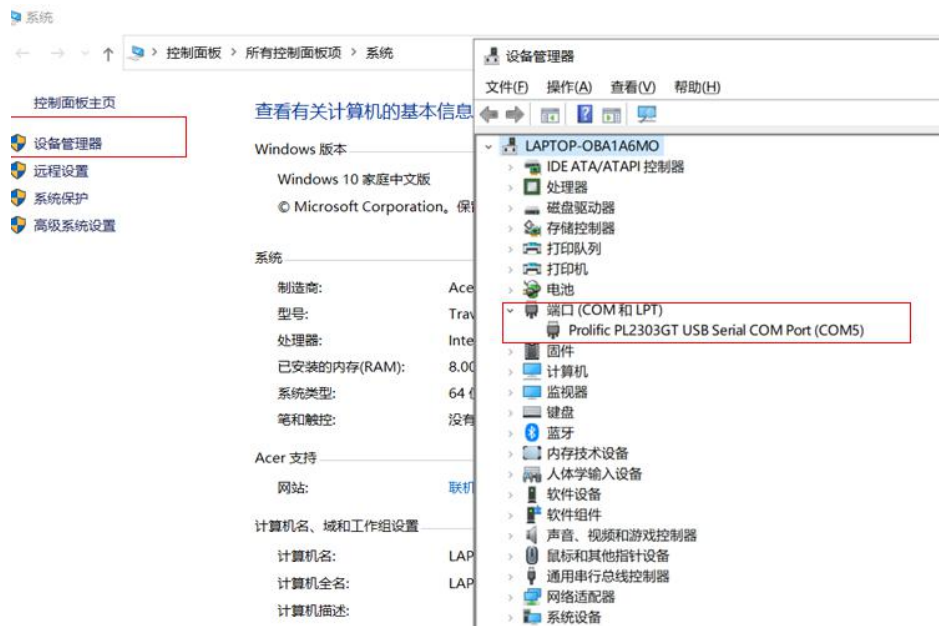

Figure 4
3.1 Connect the serial port cable or USB cable to the reader and check the generated serial port number in the computer device manager, as shown in "Figure 4":